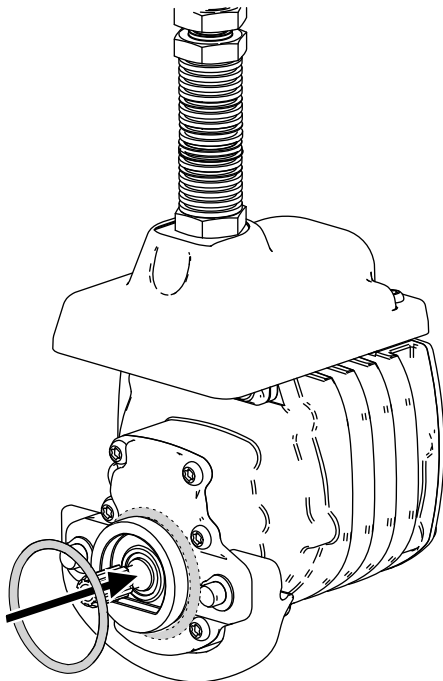

Figure 8
3. Install an O-ring to each reel motor as shown in Figure 8.